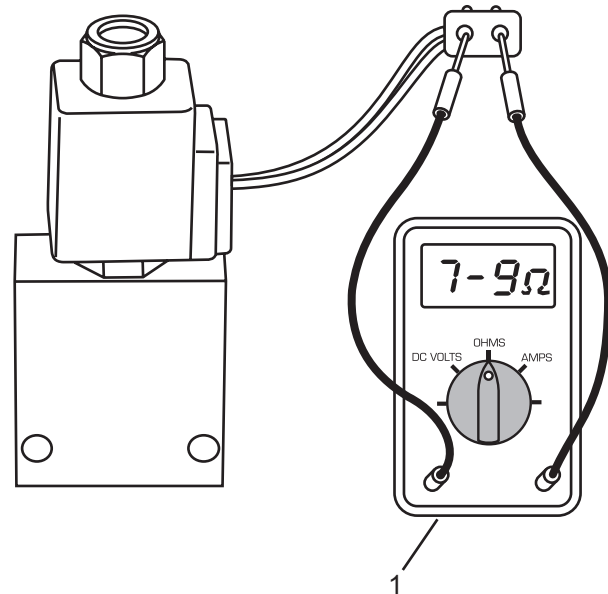

Figure 45
2. Perform an ohm test on the solenoid. Set your multimeter to the proper ohms scale. Connect the multimeter (Figure 45, Item 1) leads to the solenoid. Multimeter should indicate a reading between 7 to 9 ohms. If reading is within specification, go to Step 3.